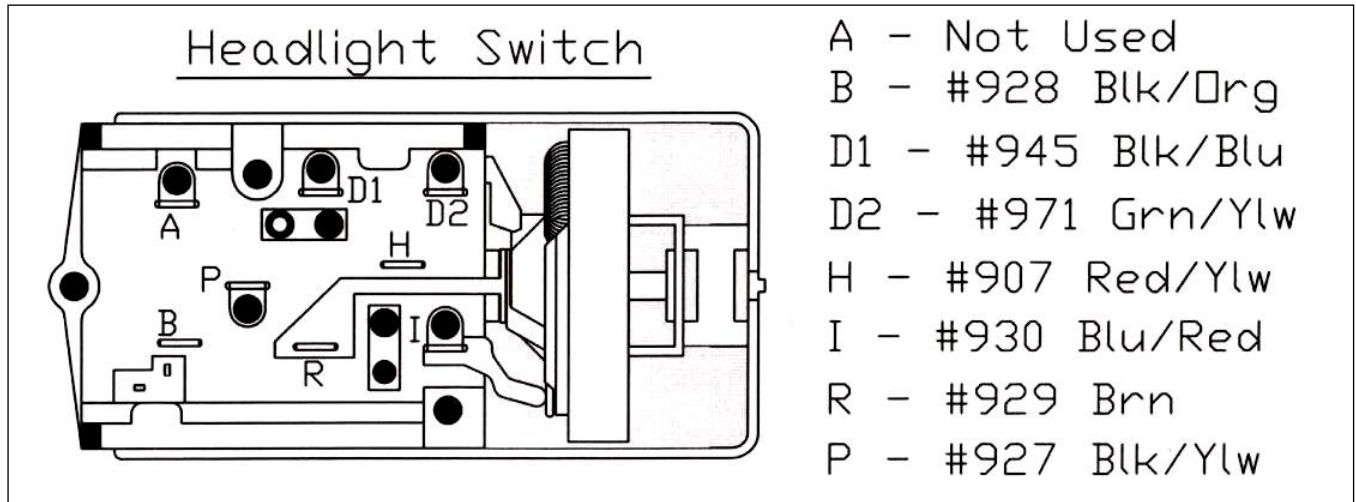

Figure 7-18 Headlight Switch Connections (All Models)
7.8.1 Connect the HEADLIGHT SWITCH connector to the headlight switch. **Figure 7-18** has been provided to help troubleshoot any issues. After completing the installation of the Headlight Switch wires locate the DASH GROUND wire, which is directly above the steering column in the main body of the harness and connect it to the chassis ground screw behind the gauge cluster.